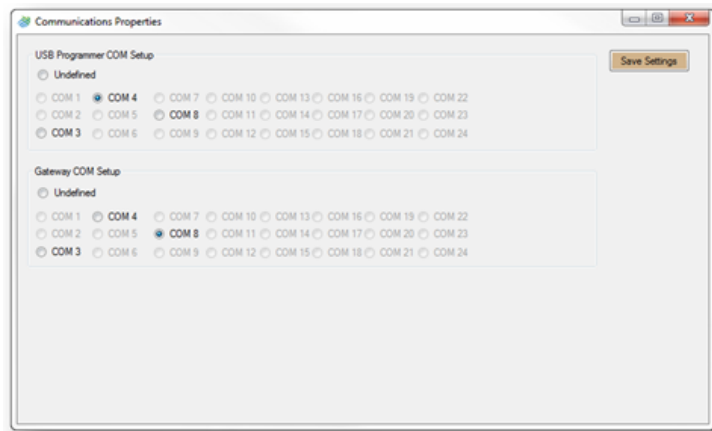

Figure 17. COM Port Selection
16. In the Gateway COM setup, in the bottom section, select the COM Port determined in Step 9 when the USB Gateway or Radio was plugged in, shown in Figure 17.
17. Click the **Save Settings** button in the top right of the screen, shown in Figure 17.